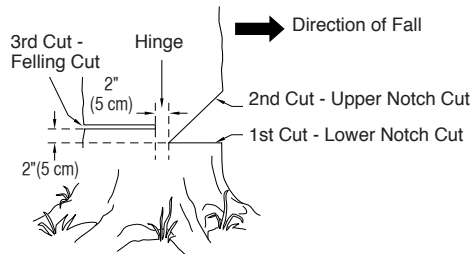

Figure 10 - Felling A Tree
A properly placed felling notch will determine direction tree will fall. Place felling notch on side of tree in direction you want tree to fall (see Figure 10). Follow directions below to create a felling notch.
1. Make lower notch cut as close to ground as possible. Hold saw so guide bar is horizontal. Cut 1/3 the diameter of tree trunk (see Figure 10). **Note:** Always make this horizontal lower notch cut first. If you make this cut second, tree can pinch chain or guide bar.
2. Start upper notch cut the same distance above first cut as first cut is deep. **Example:** If lower notch cut is eight inches deep, start upper notch cut eight inches above it. Cut downward at 45° angle. The upper notch cut should meet end of lower notch cut (see Figure 10).
1. Make felling cut two inches higher than lower notch cut and on opposite side of tree (see Figure 10). Keep felling cut parallel to lower notch cut.
**⚠ WARNING:** Do not cut all the way through tree. Leave about two inches of tree diameter uncut directly behind felling notch (see Figure 10). This uncut portion acts as a hinge. The hinge helps keep tree from twisting and falling in wrong direction.